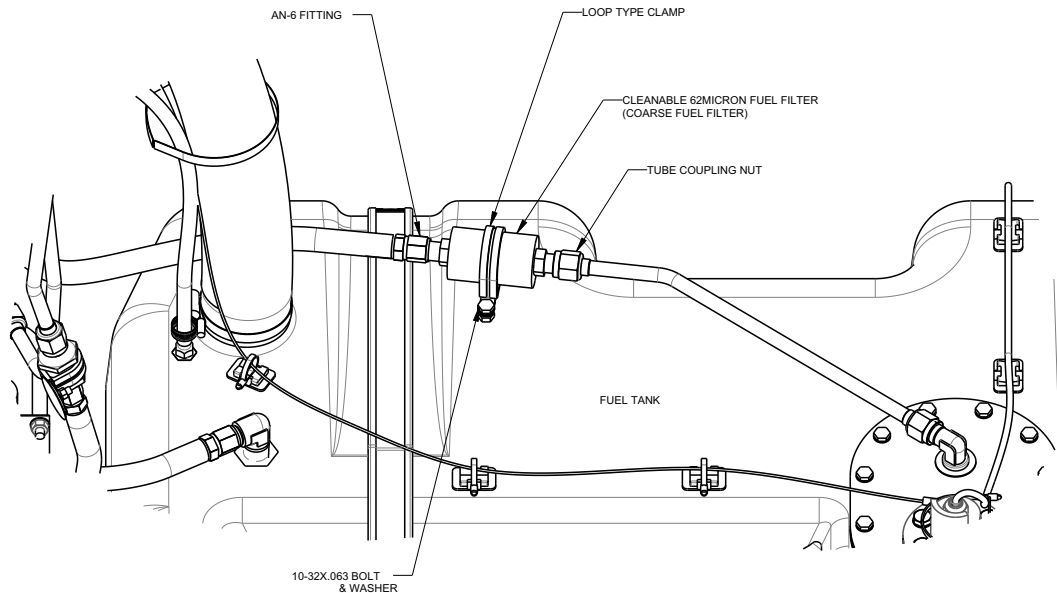

FIGURE 10-22
5. Using an 11/16 wrench, rotate the AN-6 fitting while securing the filter from rotation with a 16mm wrench. Rotate the AN-6 connection fitting until completely free. (See Figure 10-22.)